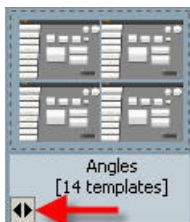

FIG. 289 Expanding a Template Family
3. Click the double-arrow icon on a Template Family icon to display thumbnail images of all templates contained (click **Expand All** to expand all Template Families - FIG. 289):